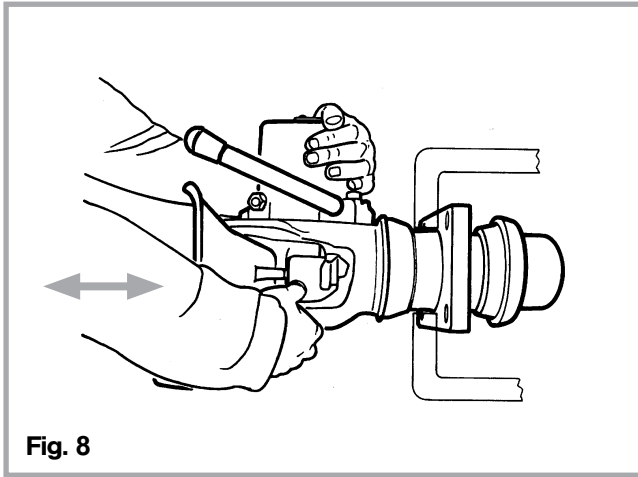

Fig. 8
- Push bar upwards and observe coupling movement (see Fig. 8). If wear-induced play is greater than **1 mm** (equal **3 mm** at centre axis of coupling pin), coupling must be dismantled and bearing must be inspected.
- Grip coupling head (not funnel) with both hands and move in longitudinal direction (see Fig. 8):